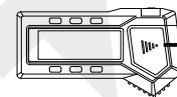

fig.4
- Remove the battery cover(fig.4)